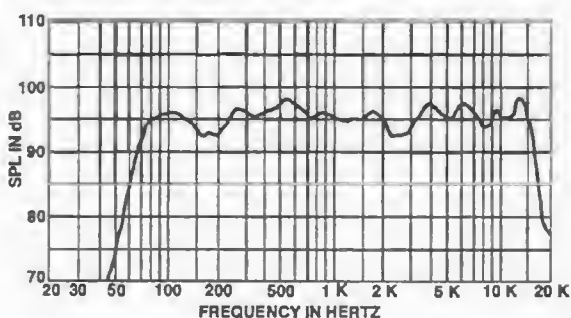
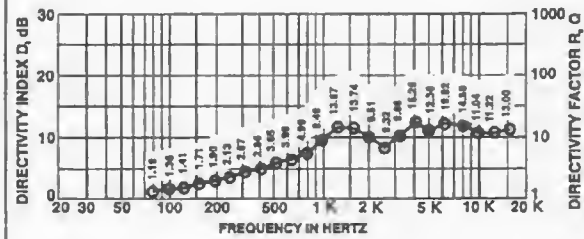
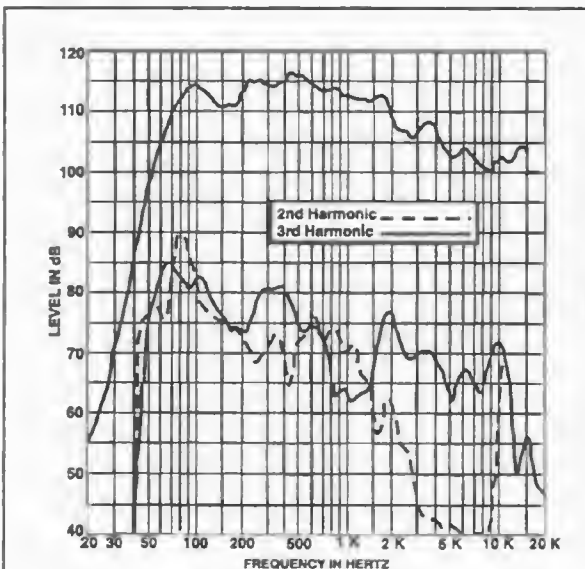

FIGURE 1—DMC-1122X/DMS-1122/85
FIGURE 5—DMC-1122X/DMS-1122/85
FIGURE 6—DMC-1122X/DMS-1122/85
CHANNEL CONFIGURATIONS: Monoaural two-way; two sense channels FILTER TYPE: 4th-order Linkwitz-Riley CROSSOVER FREQUENCY: 1,480 Hz GAIN: 5 dB nominal SIGNAL-PATH EQUALIZATION (see Figure 1), LF EQ: -3 dB at 40 Hz, +11 dB at 84 Hz LF Signal Delay: 0.03 ms at crossover frequency HF EQ: 4th order optimized for DMS-1122/85 series driver and horn TOTAL HARMONIC DISTORTION, 20 - 20,000 Hz: 0.03% typical, 0.1% maximum NOISE, EACH OUTPUT, 20 - 20,000 Hz NBW, TYPICAL: -86 dBu SIGNAL INPUT, Type: Electronically balanced differential Maximum Level: +18 dBu Impedance: 27,000 ohms and .0015μf CMRR, Typical: -55 dB	Connector: Female 3-pin XLR-type SENSE CHANNEL INPUTS, Type: Floating differential Maximum Level, LF: 145 V rms HF: 145 V rms Impedance: 100 kilohms each side to ground Connector: Two five-way binding posts OUTPUTS (LF and HF): Type: Electronically balanced differential Maximum Level: +18 dBu Minimum Load Impedance for Full Level: 600 ohms Connectors: Male 3-pin XLR-type POWER REQUIREMENTS: 100, 120, 220, 240 V ac, 50 - 60 Hz, 13 W CHASSIS CONSTRUCTION: Painted steel COLORS: Gray front panel/black chassis with white graphics MOUNTING: EIA 19-inch rack mount, 1.75 in. high, 8.97 in. behind panel (including connectors); supplied with front-panel security cover for controls.
Frequency Response (measured in far field, calculated to one meter on axis, swept sine wave, one watt into LF section - 2.83 V at 250 Hz, anechoic environment; see Figure 1): 60-16,000 Hz Crossover Frequency: 1,480 Hz Efficiency, LF/HF: 4.8/25 % Maximum Long-Term-Average Power-Handling Capacity (per ANSI/EIA RS-426A 1980), LF/HF: 300/60 watts Maximum Long-Term-Average Midband Acoustic Output, LF/HF: 14/15 acoustic watts Sensitivity (SPL at one meter, indicated input power, anechoic environment, average level), LF/HF, 1/1 watt: 99.0/110.0 dB 300/60 watts: 124.0/128.0 dB	Beamwidth (angle included by 6-dB-down points on polar responses, indicated one-third-octave bands of pink noise; see Figures 3 and 4), Horizontal, 1,200-16,000 Hz: 80° (+15°, -30°) Vertical, 1,200-16,000 Hz: 55° (+70°, -20°) Directivity Factor, R (Q), 1,200-16,000 Hz Average (see Figure 5): 12.3 (+4.0, -6.0) Directivity Index, D, 1,200-16,000 Hz Average (see Figure 5): 10.9 dB (+1.2 dB, -2.9 dB) Distortion (115 dB SPL at one meter, shaped spectrum; see Figure 6), Second Harmonic, 100 Hz: 2.4% 500 Hz: 0.7% 2,000 Hz: 2.1% 5,000 Hz: 1.0%
**NOTE:** The gain has been structured within the DMC-1122X controllers so that DMS-1122/85 loudspeaker will have a flat frequency response (as shown in Figure 1) in an anechoic environment with the output levels of the controllers set in the 0-dB-detent position and with the amplifier channels having identical gain driving the LF and HF sections of the speaker.